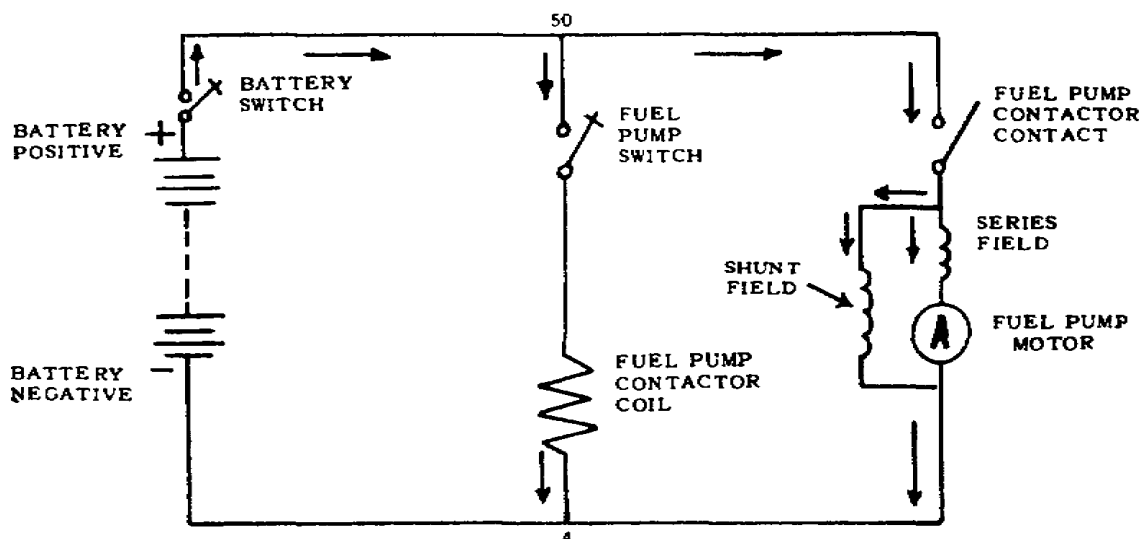

Figure 1.12. Schematic Wiring Diagram --
Look at the schematic diagram of the fuel pump circuit in figure 1.12 and trace out one of the highways on the electrical map. Here you see a battery, a fuel pump contactor coil, its contacts, and a fuel pump motor. The symbol (A) is standard for motor armature. All switches and contacts are shown on their normal position, that is, with no power on.
In the simple diagram in figure 1.12, parts of the circuit are identified by their names as well as by symbols. Oftener than not,